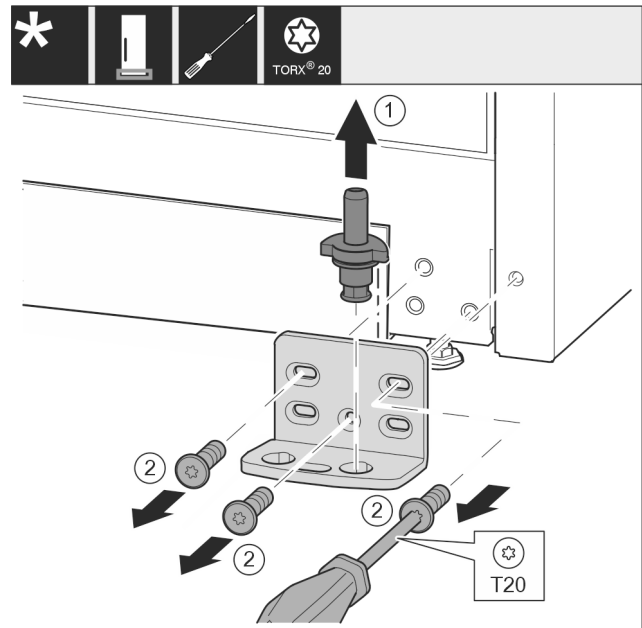

Fig. 14
- Lift the bearing pin completely upward and remove it. Fig. 14 (1)
- Remove the screws with the T20 screwdriver and take off the bearing bracket. Fig. 14 (2)